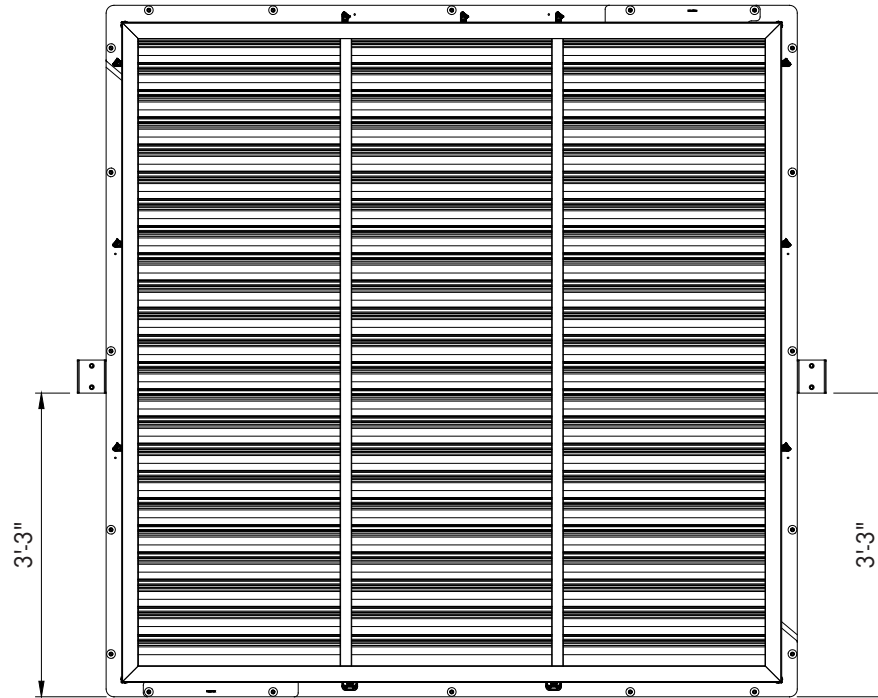
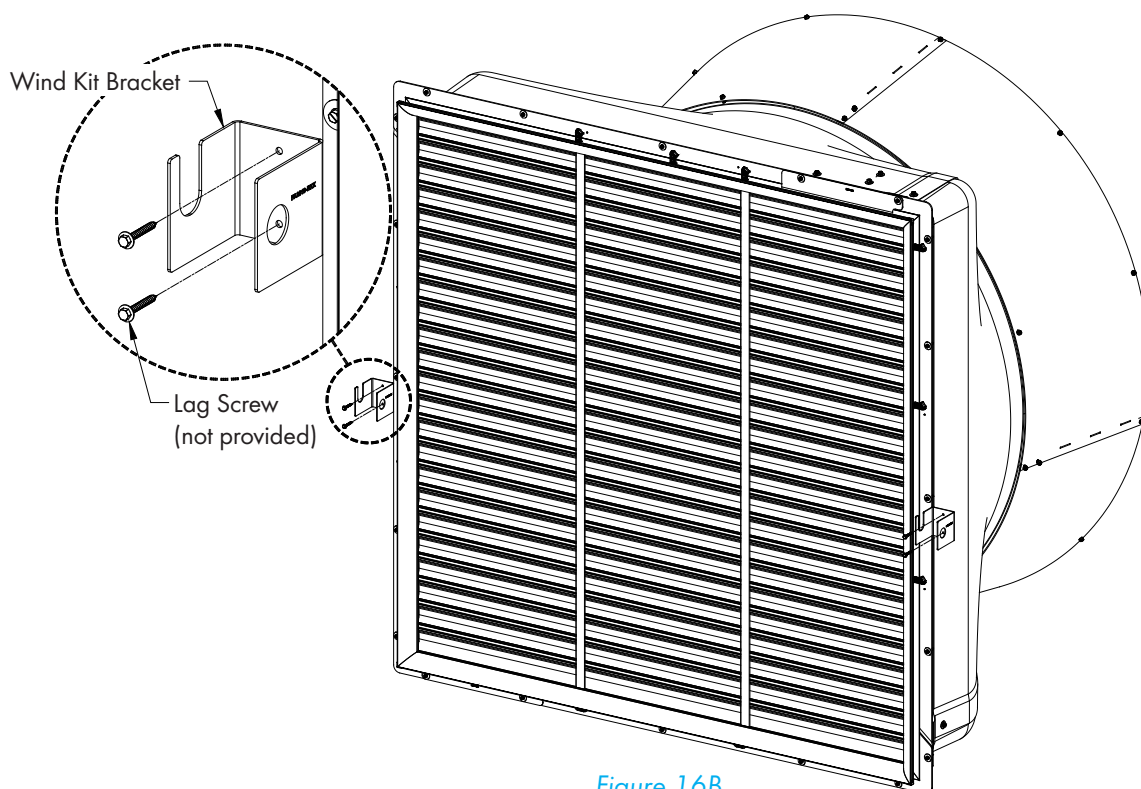

Figure 16A
Figure 16B
Mount one Wind Kit Bracket on each side of fan, 3'-3" above the bottom flange of fan. The opening in the 'U' slot should be facing up and each Bracket should be mounted in same direction. *See Figure 16A.* Fasten Brackets in place using (2) Lag Screws (not provided). *See Figure 16B.*